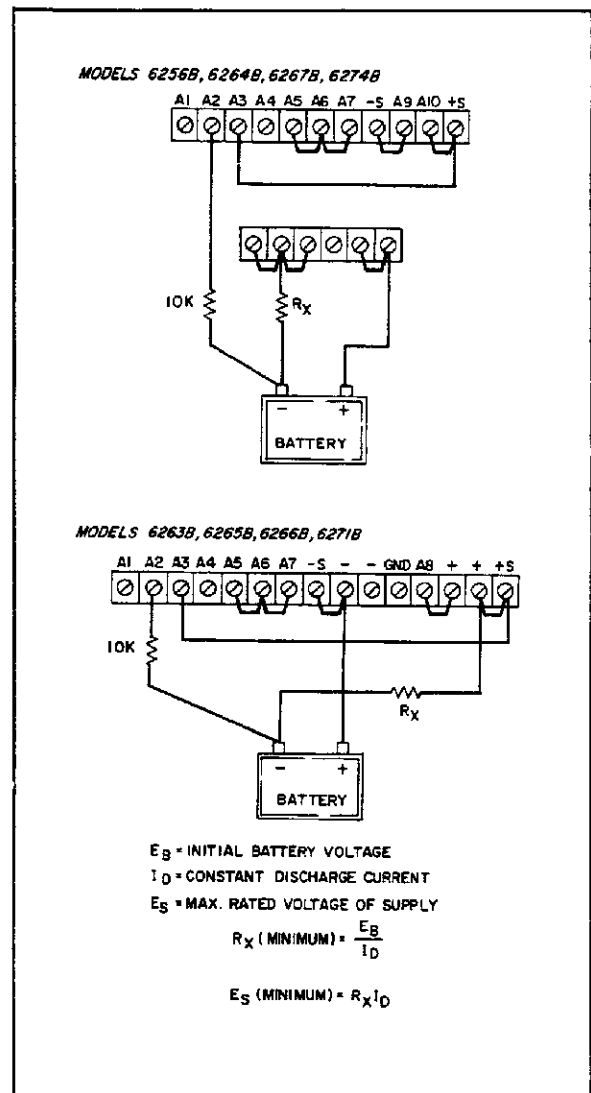

Figure 3-15. Battery Discharging
3-84 These power supplies are also useful when batteries must be discharged at a constant current in order to test them. Connecting a supply as shown in Figure 3-15 and following the instructions below makes an unattended constant-current discharge possible by automatically shutting off the output of the supply when the battery voltage reaches zero.
3-85 The supply operates in the constant-current mode, delivering the current set by the current control. This constant current flowing through dropping resistor R_X produces a constant voltage across the resistor. Initially, the battery voltage is high and the supply's output voltage is low, but as the battery voltage decreases during discharge, the supply voltage increases. When the battery voltage reaches zero, the supply senses this through the connection to its (A2) terminal and reduces the output current to zero. As shown in Figure 3-15, R_X must be selected so that its IR drop is less than the maximum rated output voltage of the supply, but greater than the initial battery voltage.
- b. Connect terminal (A3) to (+S) and leave all other jumpers connected as for normal operation as shown in Figure 3-15.